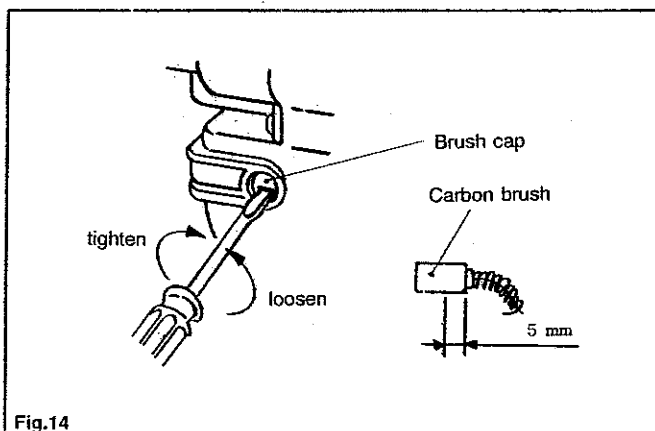

Fig.14
- (1) Be sure to press the unit straight against the work. Otherwise, the screw head may be damaged, the bit may wear out earlier, or the screw may be poorly tightened.
- (2) Keep pressing the unit long enough. If interrupted halfway, the screw may end up loose.
- (3) Do not slow down the unit when pressing. Return it quickly after the screw gets into position.
18. Preventive maintenance (Fig. 14)
(4) Checking the carbon brushes (Fig. 14)
(5) Replacing the carbon brushes (Fig. 14)